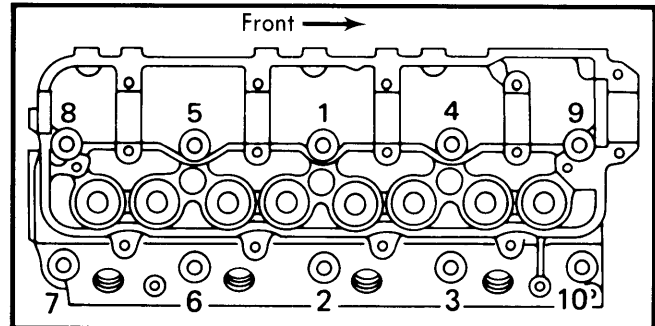

Fig. 1 Cylinder Head Tightening Sequence (Loosen in Reverse Order)
2) Disconnect exhaust pipe from manifold. Disconnect oil feed pipe from cylinder head and heater hose from thermostat housing. Loosen head bolts in reverse of tightening sequence shown in Fig. 1 and remove cylinder head.